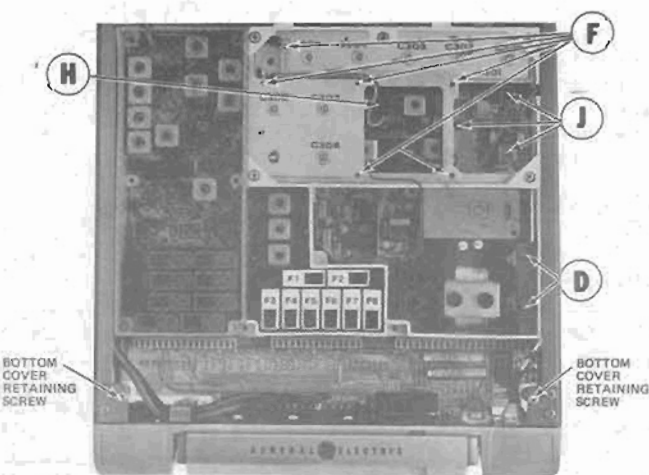

Figure 4 Disassembly Procedure (Top View)
2. Remove the top cover, then loosen the two bottom cover retaining screws and remove the bottom cover (see Figure 4).